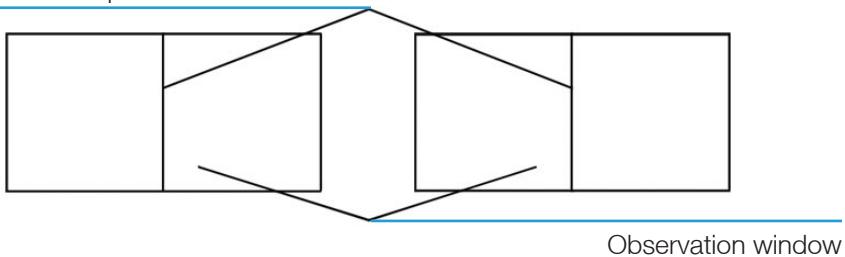

Fig. 4
2.3 Viewed from the Measuring Window (as shown in Fig.4)